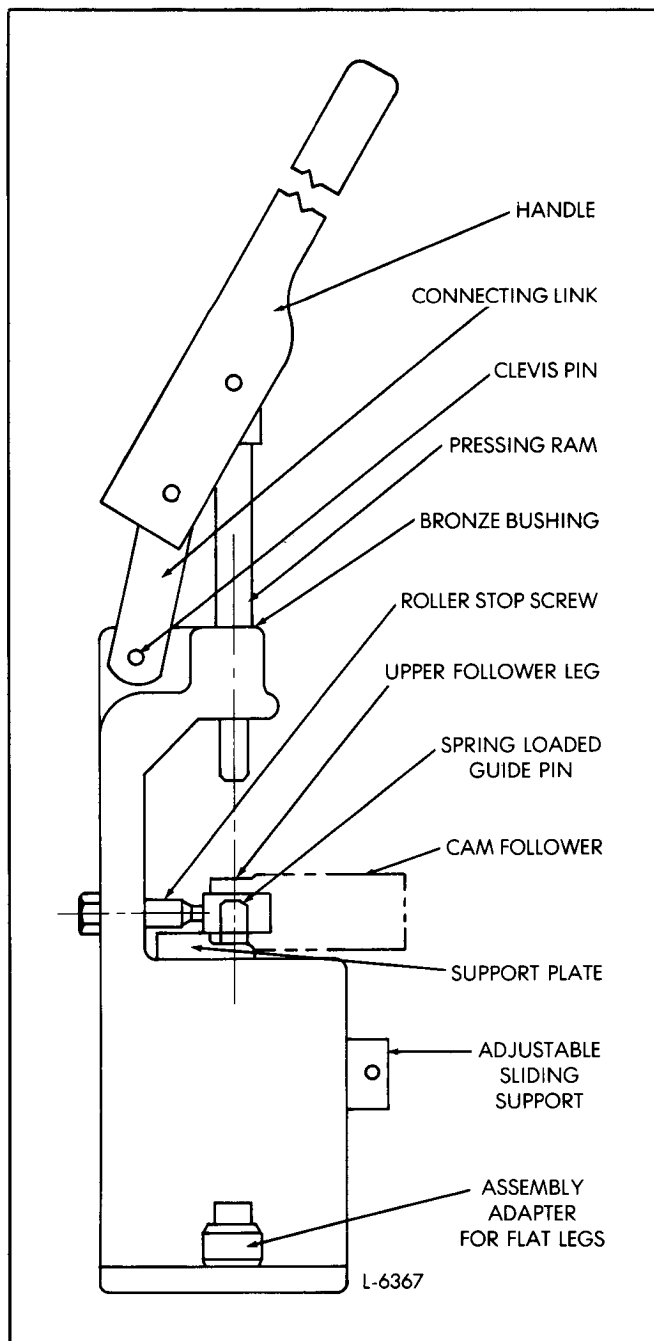

Fig. 7 - Removing or Installing Cam Follower Roller using Tool J 33421
1. Pull the adjustable sliding support out against its stop (Fig. 7).